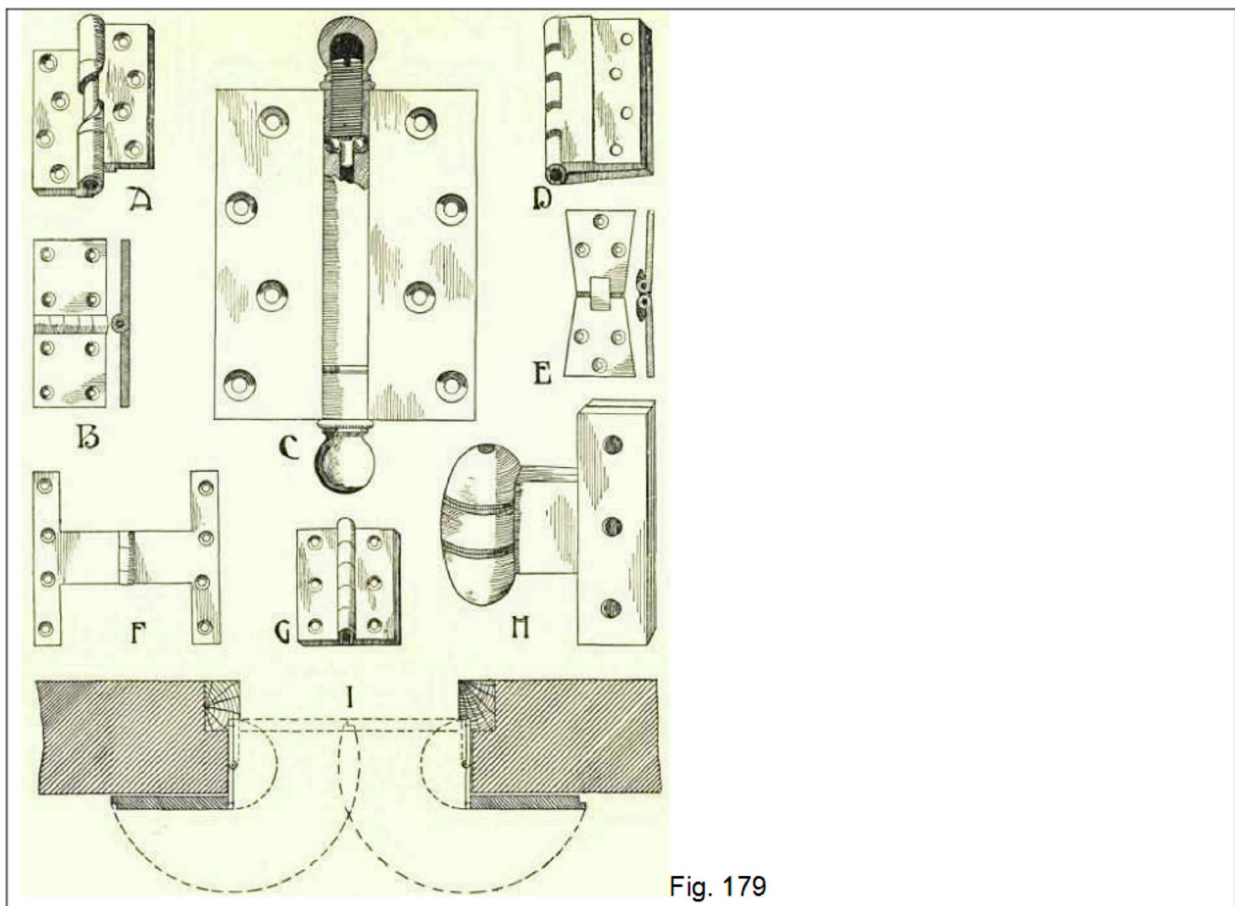

Fig. 179
The most generally used hinge of modern times is undoubtedly the butt hinge, as shown at G in Fig. 179, which is made in a variety of metals and sizes suitable for any framed door. These hinges are screwed to the edge of the door and to the rebate of the frame or lining. When brass butts are used for heavy doors, or where there is much wear, they should be fitted with double steel washers, as shown at D, to form the wearing surfaces in each joint of the knuckle. Projecting butts (Fig. 179, D) are made with wider cheeks, so as to project beyond the face of the door in order to allow it to open clear of architrave or other projection.
Ball-bearing butts have two cup-and-ball joints on the knuckle, whereby friction is reduced to a minimum. Fig. 179, C, illustrates an improved ball-bearing hinge manufactured by Messrs. James Hill & Co. The ball races which are adjustable are kept well apart, and the cups made separately, which enables them to be properly hardened.
Parliament hinges (F) are made to allow of shutters or doors opening clear of a reveal, and lying on the face of the wall, as shown at Fig. 179, I.